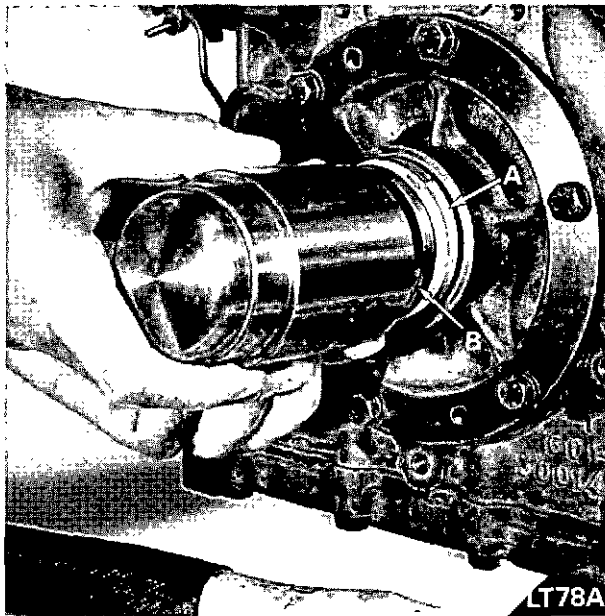

Fig. 141 Fitting Felt and Seal Cover.
3. Check that the impeller A is for the correct rotation and fit over the shaft with direction arrow visible. Fit spacer B and using tool illustrated in Fig. 141, drive the impeller onto the shaft.